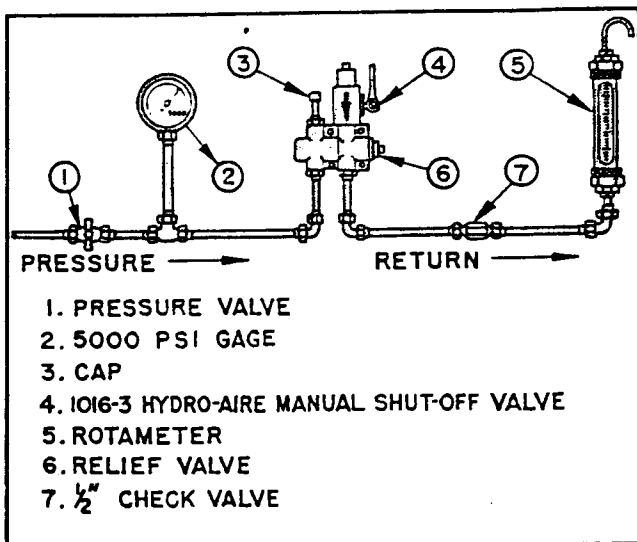

Figure 15. Relief Valve Test Set-Up
1. Make test set-up as shown in figure 15.